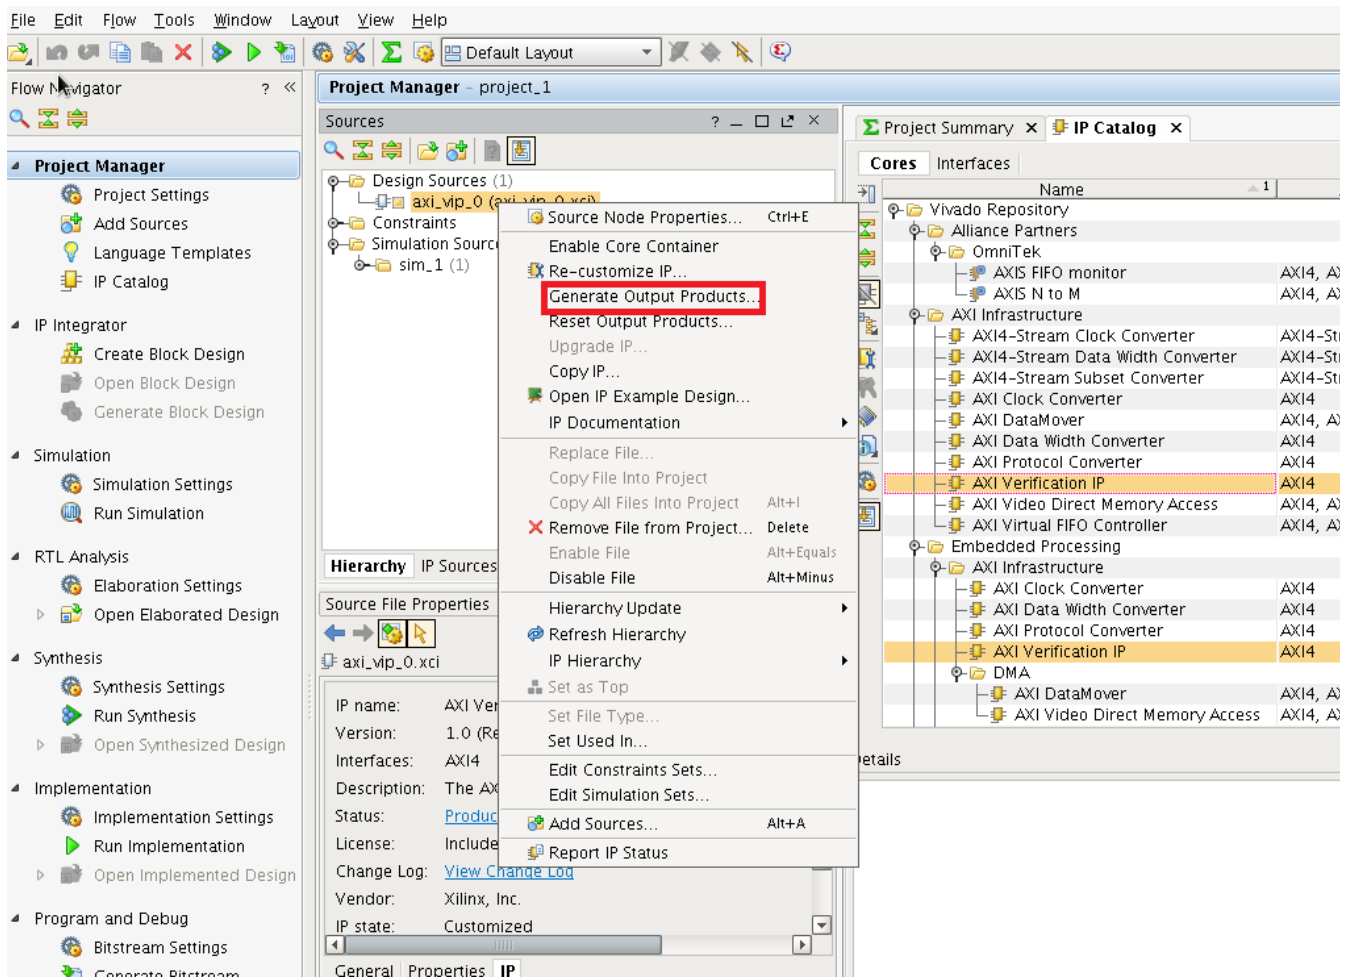

Figure 4-10: Generate Output Products
1. Right-click **bd design** and select **Generate Output Products** (Figure 4-10).